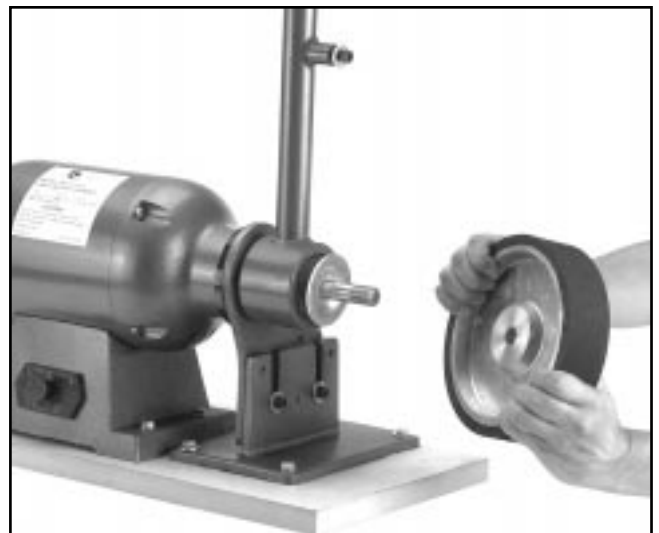

Figure 8. Attaching drive wheel.
3. Secure with the motor shaft hex nut. **See Figure 8.**